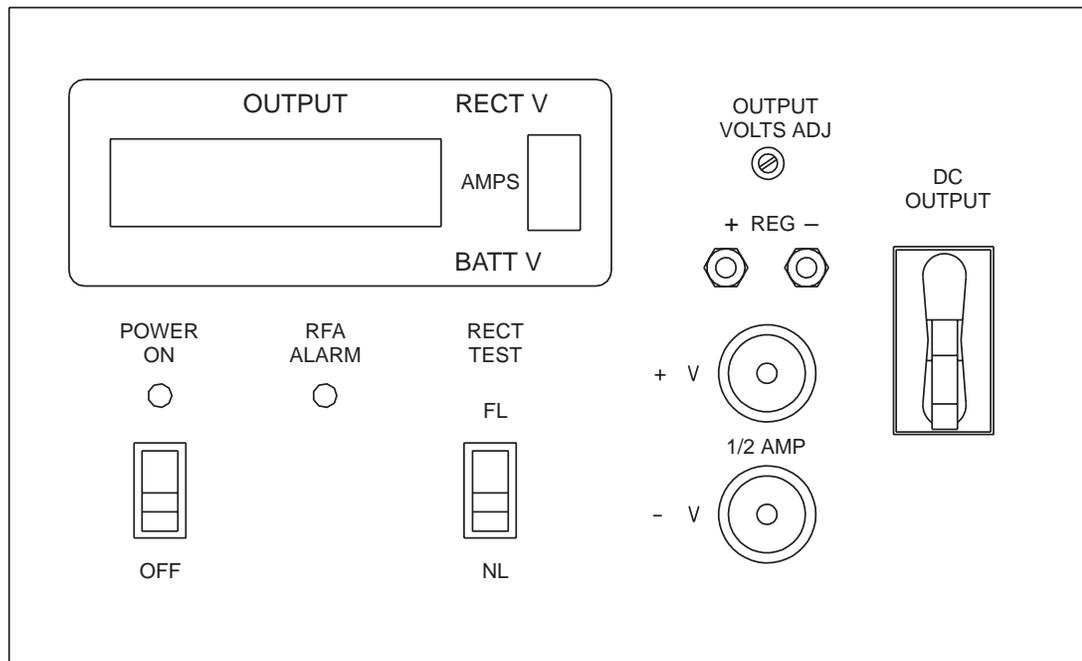

Figure 2-1: Control Panel of J85502A-1 Rectifier
- The **CM3** circuit module (207A meter board) controls the digital **Output** meter on the control panel of List 10 rectifiers. The meter displays the rectifier's output current, voltage, or the plant battery voltage depending on the three-position selector switch (see Figure 2-1).
Figure 2-1 shows the control panel of the J85502A-1 25-ampere rectifier. The following list describes the controls and indicators on the control panel. These features should be observed and manually operated during normal rectifier performance. Bold letters indicate labels that appear on the control panel or inside the rectifier.